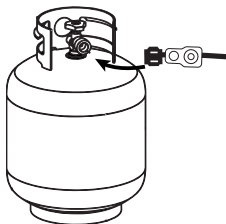

Figure 10 - Connect Propane Tank
6. Connect LPG hose to propane tank. Screw the open ACME nut connection to your propane tank (see Figure 10 below).